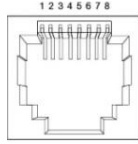

Figure 4
1. Insert the top of the DIN-Rail onto the track as shown in *Figure 4*.